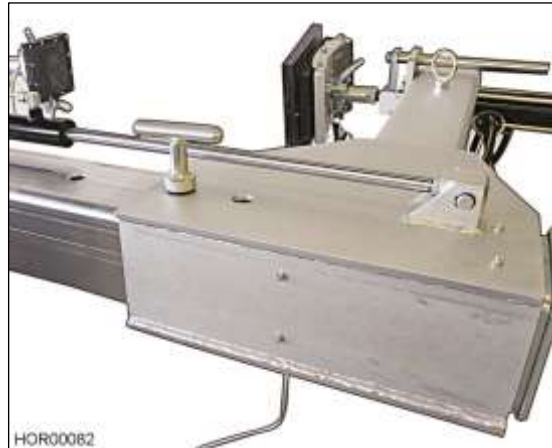

Bild 15 Positioning the frame sections
- Remove a frame section's safety bolt and use the pressure unit's lever to put the frame section into outer position (Bild 15).